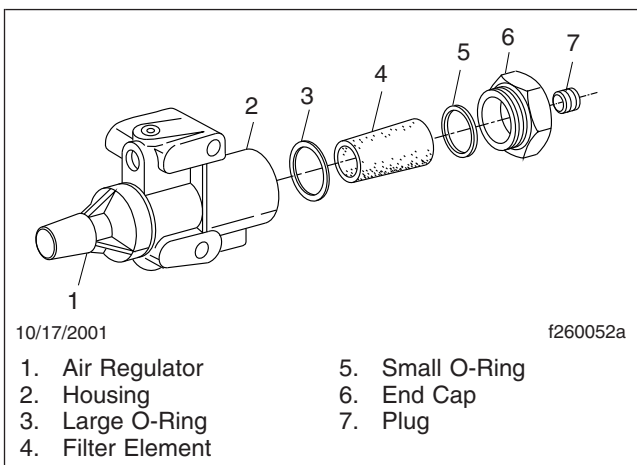

Fig. 3, Eaton Fuller Transmission Air Filter/Regulator Components
3. Remove the end cap, large O-ring, and filter element from the filter housing. See Fig. 3. Remove the small O-ring from the end cap.